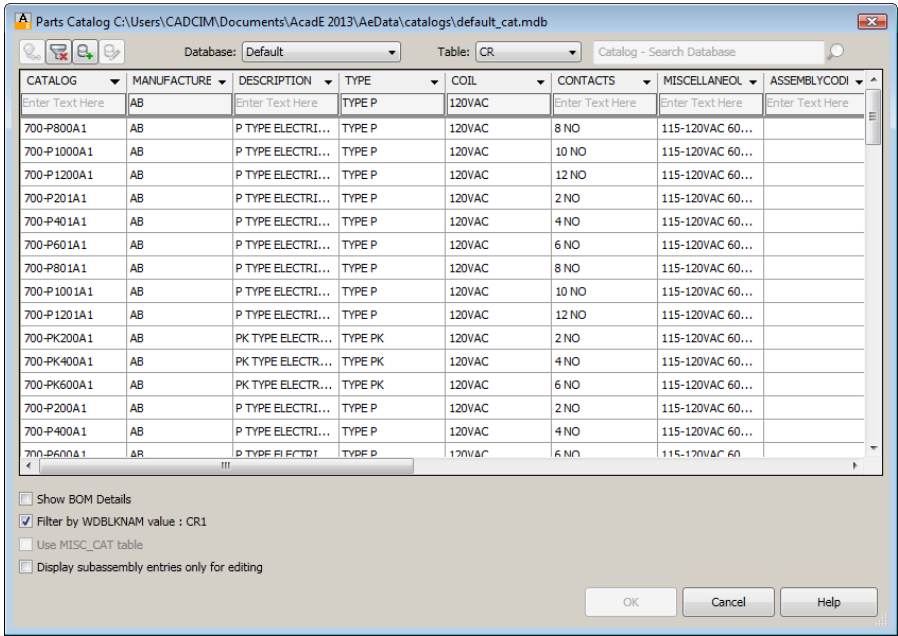

Figure 6-57 The Parts Catalog dialog box
3. Choose the **Catalog Lookup** button; the **Parts Catalog** dialog box is displayed, as shown in Figure 6-57.